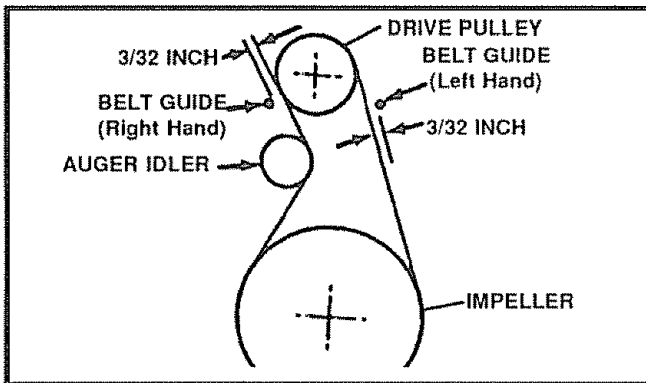

FIG. 28
- Measure the distance between the belt guides and the belt (See Fig. 28). The distance should be $\frac{3}{32}$ " for each guide.